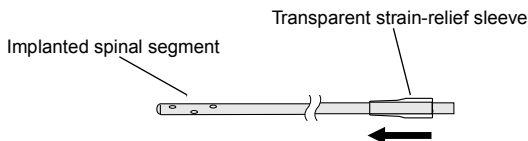

Figure 8. Sliding the transparent strain-relief sleeve onto the spinal segment.
3. Slide the transparent strain-relief sleeve, small end first, onto the spinal segment (Figure 8 on page 12).